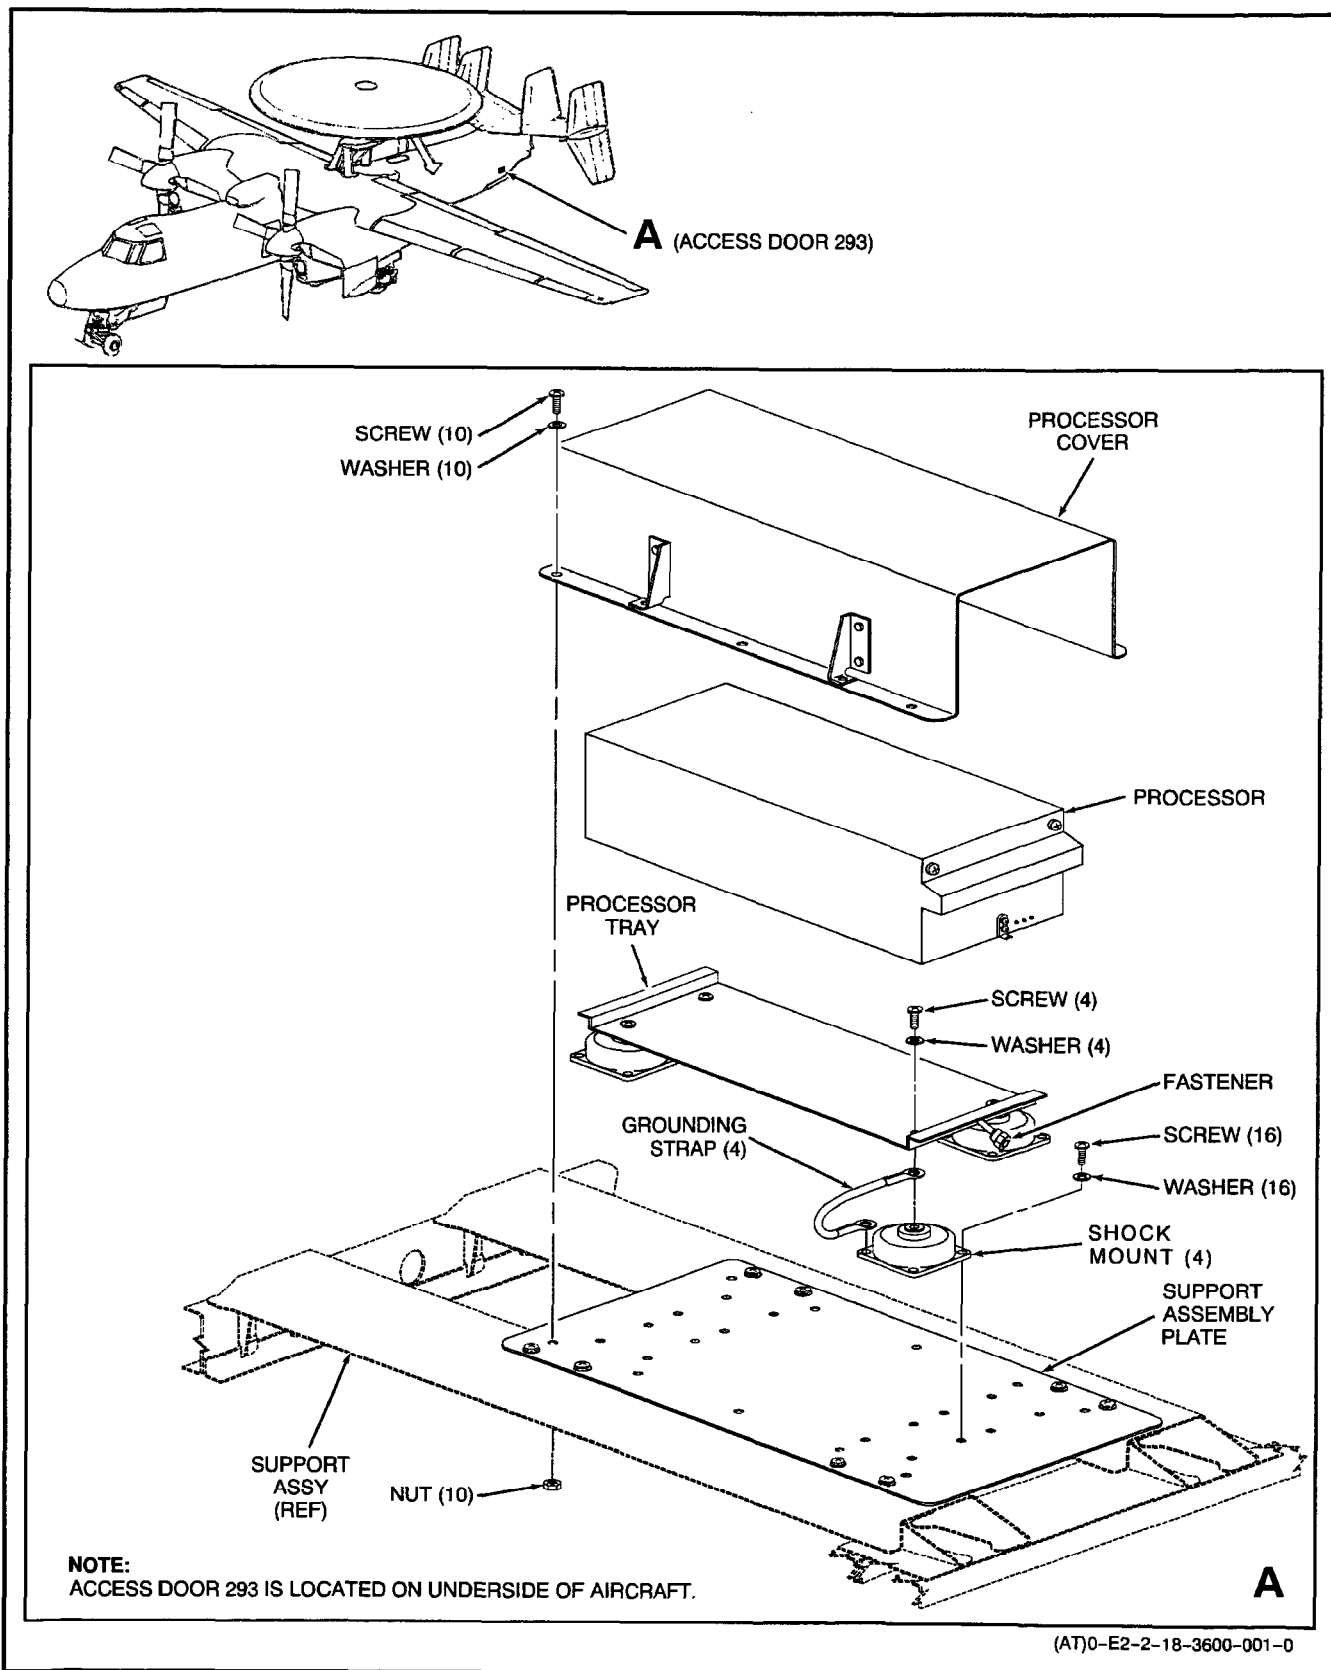

Figure 1. Removal and Installation of Electrical Equipment Mounting Base MT-6811/AMS-2
7. **REMOVAL.** (Figure 1.)
8. **INSTALLATION.** (Figure 1.)
As shown in figure 1, ensure grounding straps are properly positioned and secured during next two steps.